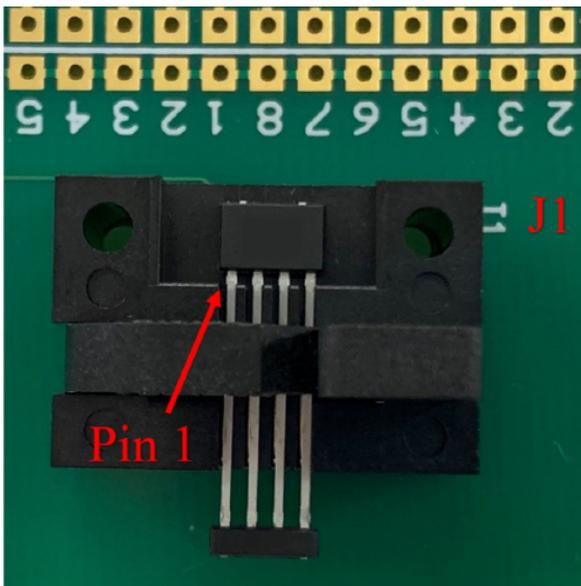

Figure 11: ACS70311 in “J1” socket
4. See Figure 11 showing the ACS70311 in “J1” socket.